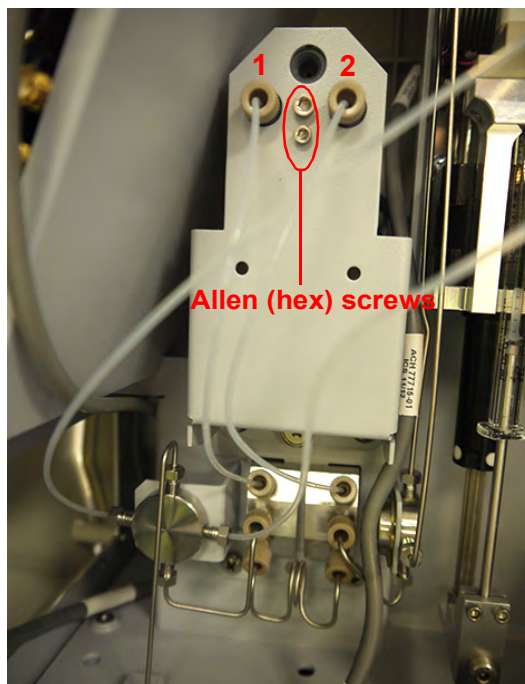

Figure 59: ICR Bracket
3. Remove the two knurled-nut tube connectors (1 and 2 in Figure 59) from the degasser. (Note the orientation of the tubing for the reassembly process.)
4. Loosen both the large and small Allen (hex) screws (Figure 59). Pull the installed degasser away from the ICR bracket. Dispose of the removed degasser according to local regulations.
6. Reconnect the two knurled-nut tube connectors (1 and 2 in Figure 59) to the degasser.